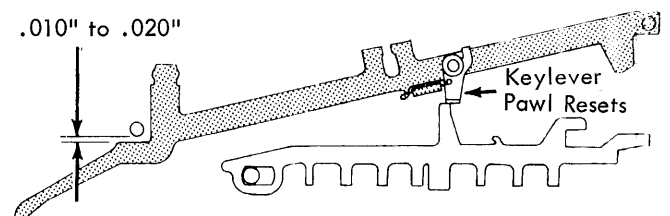

FIGURE 10. Front Keylever Guide Comb
10. Front Keylever Guide Comb - Position the guide comb vertically to allow the keylevers to travel .010" to .020" after the keylever pawl resets (Fig. 10).